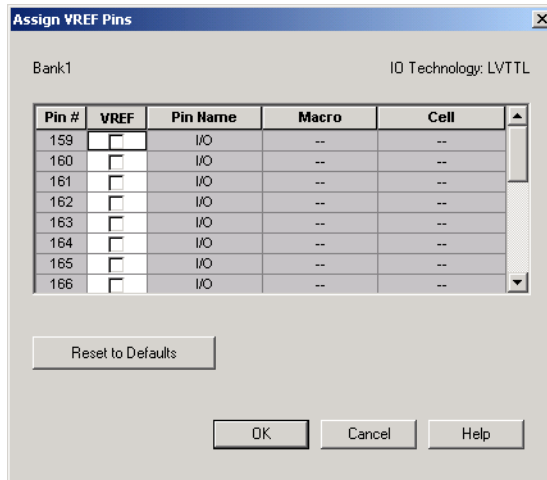

Figure 2-4. Assign VREF Pins Dialog Box
4. Click **Assign VREF Pins**. The Assign VREF Pins dialog box appears, as shown in Figure 2-4.